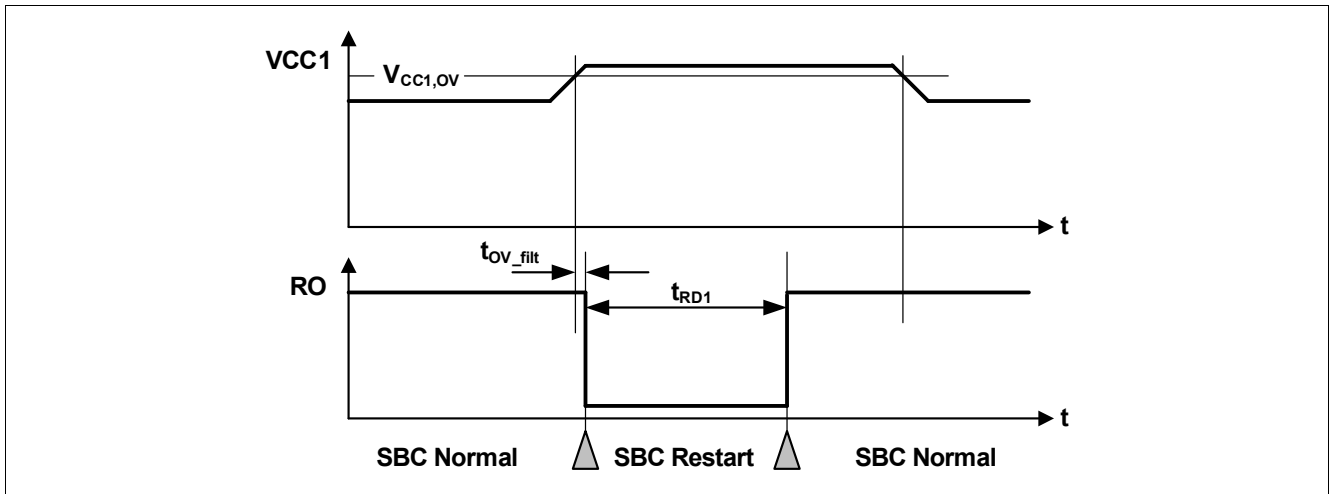

Figure 48 VCC1 Over Voltage Timing Diagram
- If the bit **VCC1_OV_RST** is set and **CFGP** = '1', then SBC Restart Mode is entered. The FOx outputs are activated. After the reset delay time (t_{RD1}), the SBC Restart Mode is left and SBC Normal Mode is resumed even if the VCC1 over voltage event is still present (see also Figure 48). The **VCC1_OV_RST** bit is cleared automatically;